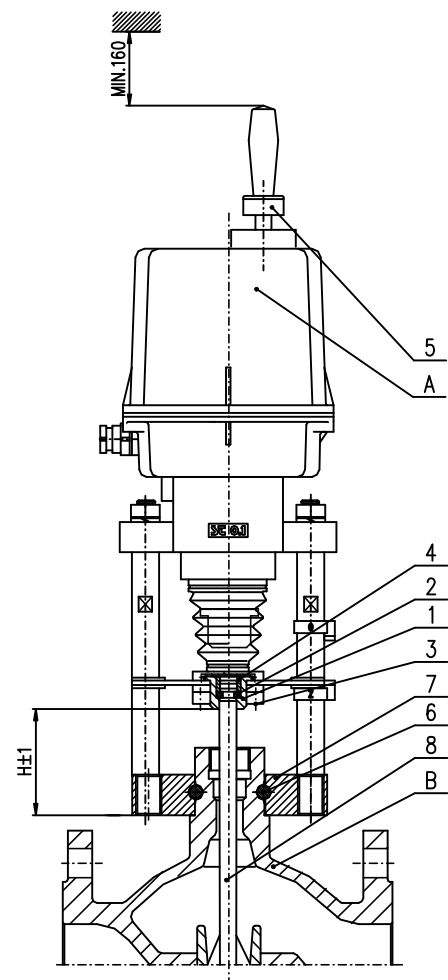

Fig. 6
d) Mechanical connection for versions with flange (Fig. 6)